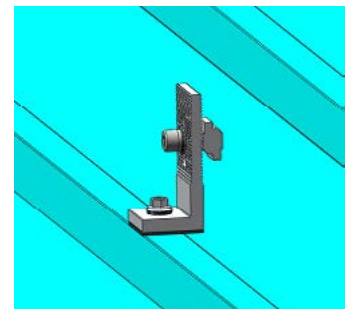

Figure 1
1) Fix the Tin Interface on the metal purlin with a self-tapping screw (Clenergy Tin interface is equipped with one Buildex 14-11 x 70 Hex Head Zips screw) according to the installation plan. Ensure that the Tin Interface in the front and rear or left and right directions are aligned using string as shown in Figure 1.